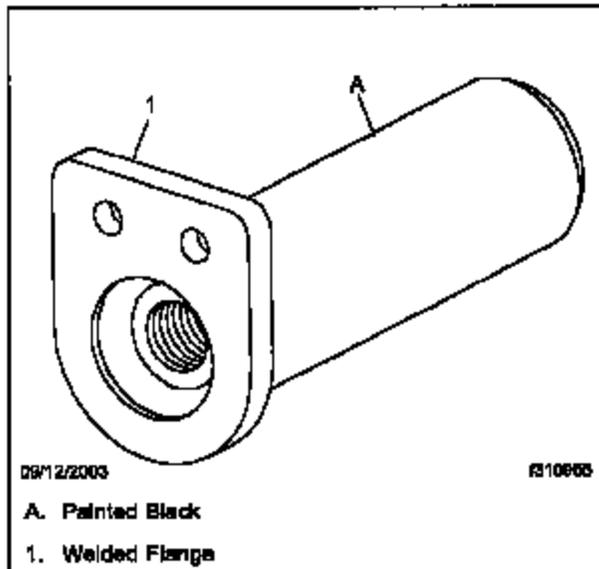
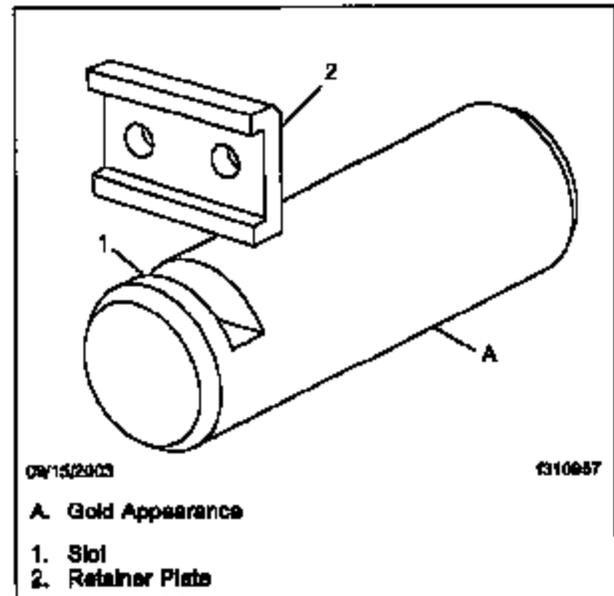

Fig. 1, Old Style Pivot Pin
Fig. 2, New Style Pivot Pin
3. Identify if the retaining pin is an old style or a new style. If it is an old style pin it will be painted black and have a flange welded onto the end. See Fig. 1. A new style pin will be a gold color in appearance, and will have a slot cut into it for a separate retainer to mount. See Fig. 2.